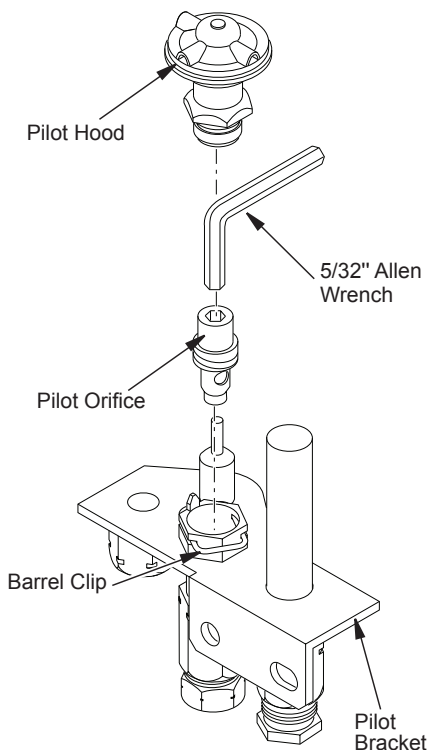

Figure 9 - Converting Pilot Orifice
1. Remove the pilot hood by pulling up until it disengages from the barrel. Do not remove the retainer clip (see Figure 9, page 4).